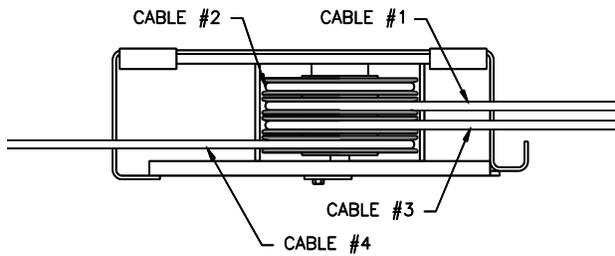

Fig 3 – Power Runway 4-Stack (rear view)
- 2) Unpack lift. Remove all packaging from Power Runway (power runway has four cable sheaves at rear end) and pull threaded cable ends out. Make sure the cables are in the proper sheaves at the 4-stack, **Fig 3**.